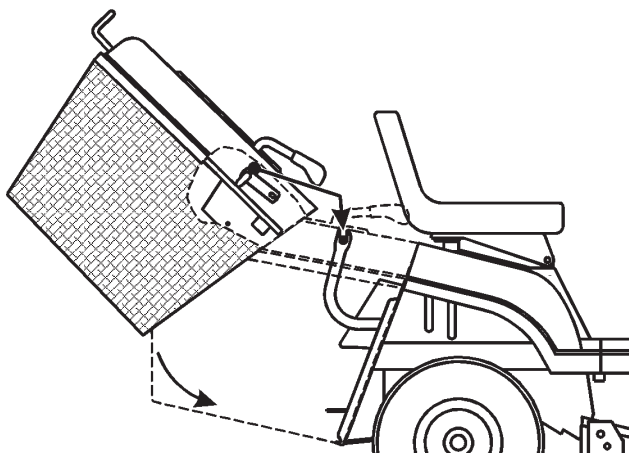

Figure 45
1. Using two hands, tip the grass collector forward (Fig. 45).
2. Tip the collector forward approximately 40 degrees and slide it onto the two support brackets at the rear of the tractor (Fig. 45). Ensure that the arrow on the top of the grass collector aligns with the arrow on the tractor.